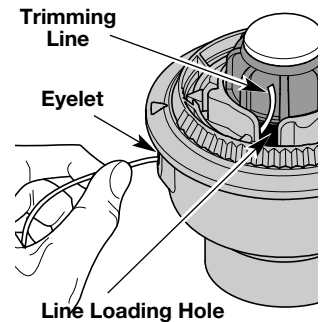

Fig. 16
4. Insert a piece of trimming line straight into one of the two eyelets in the outer spool. Push it up through the line loading hole in the inner reel (Fig. 16). Do not bend the line when inserting it into the eyelet.